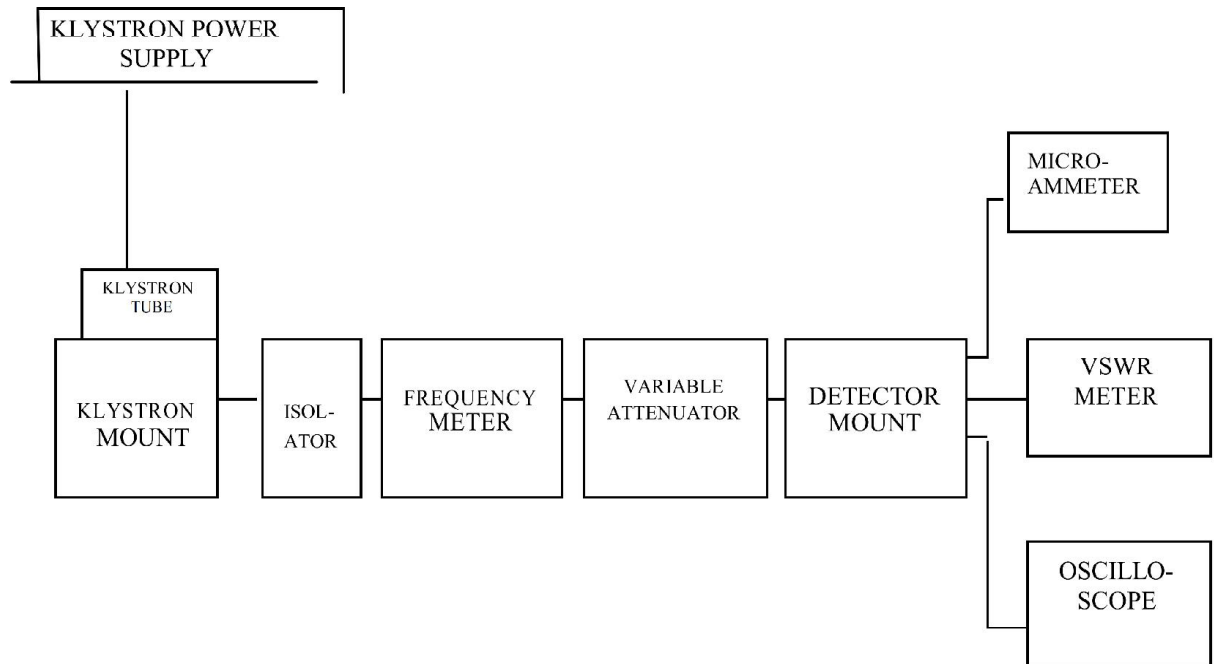

FIG.1 Set up for Reflex Klystron Characteristics
1. Connect the components and equipment as shown in the Fig 1.
1. Connect the equipment and components as shown in the Fig 1.
1. Set up the components and equipment as shown in Fig 1.